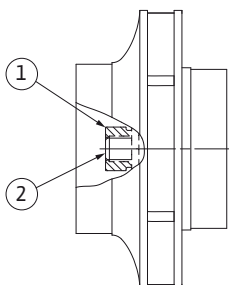

Fig. 48: Correct position of the impeller nut after the installation
29. Hold on to the shaft (see step 24) and tighten the impeller nut with the specified tightening torque (see Tab. 2 “Screw tightening torques”). The nut (Fig. 48, Item 1) has to be about ± 0.5 mm flush with the end of the shaft (Fig. 48, Item 2). If this is not the case, release the nut and repeat steps 25 to 29.